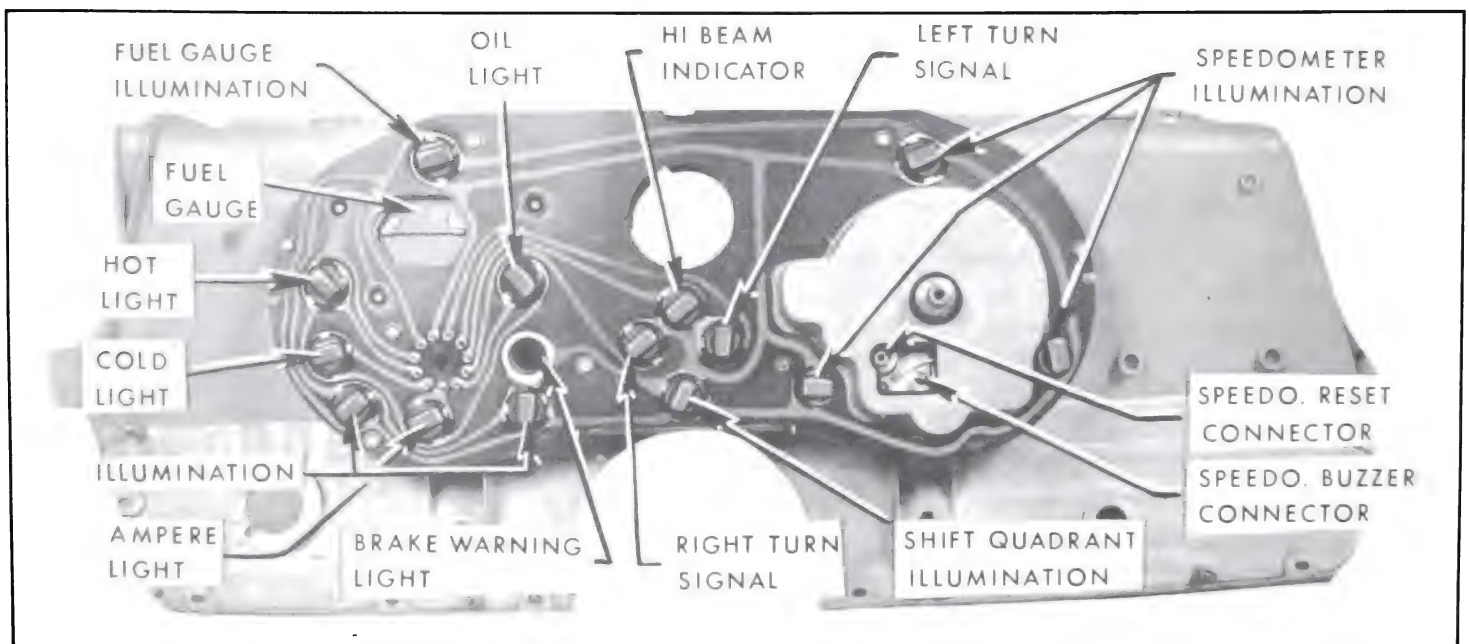
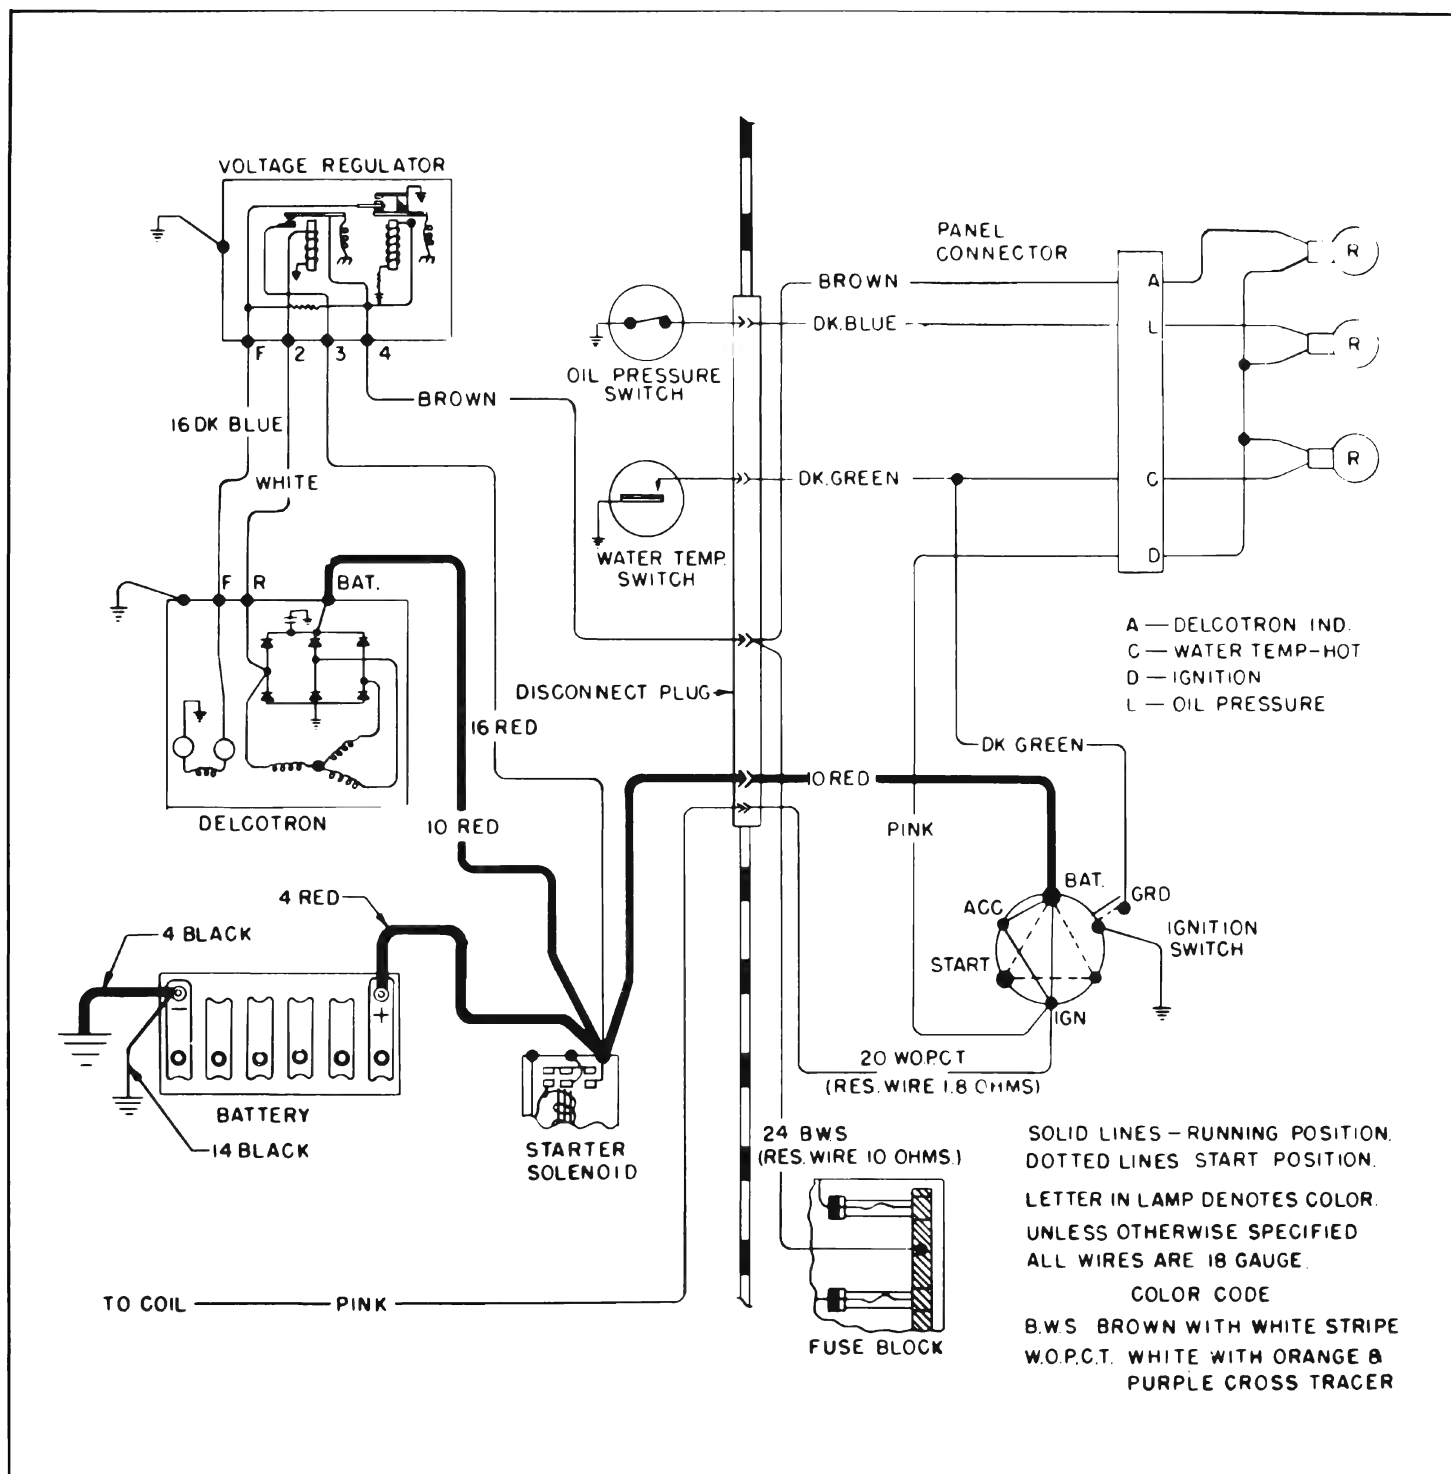

Figure 10-69—Instrument Cluster-Back Side
Figure 10-70—Indicator Warning Light Circuits - Series 4400
A printed circuit is used to complete the circuits for all the lights and instruments in the cluster assembly. See Figure 10-69. A disconnect plug which is part of the instrument panel wiring harness attaches to the printed circuit connector pins. A key way is located in the printed circuit to insure correct assembly of the disconnect plug on the connector pins. If the printed circuit should become defective, it should be replaced as it is not practical to repair it.
To trace the generator indicator light circuit, see Figure 10-70 or 71. With the ignition switch turned on (engine not running), current flow is through the ignition switch, out the "IGN" termi-
After the engine is started, the voltage put-out by the generator immediately closes the field relay. This causes battery voltage from the "3" terminal to be present at the "4" terminal. See Figure 10-70 or 71. Since battery voltage is present on both sides of the generator light, the light goes out. If the generator light comes with the engine running, the charging circuit should be tested at the first opportunity to determine the cause of the trouble. See paragraph 10-21.
If the engine cooling system is not functioning properly and the water temperature should reach approximately 248 degrees F., the "Hot" indicator will be turned on by the temperature switch. As a test circuit to check whether the "Hot" indicator bulb is functioning properly, a wire which is connected to the "GND" terminal of the ignition switch is tapped in to its circuit. See Figure 10-70 or 71. When the ignition is in the "Start" position (engine cranking), the "GND" terminal is grounded inside the switch and the "Hot" indicator bulb will be lit. When the engine is started and the ignition switch is in the "On" position, the test circuit is opened and the bulb is then controlled by the temperature switch.
Use Figure 10-70 or 71 to trace wiring circuits for indicator lights and Figure 10-69 for location of indicator light bulb socket. To determine if there is a ground in the indicator light circuit, remove connector from control switch, if light stays on, trouble is in circuit.
between 30 and 90 MPH by turning a knob at the bottom of the speedometer face. See Figure 10-69. The speed at which the safety-buzzer is set is indicated by a special pointer with a yellow ball in the speedometer face. When the pointer is turned to the end of its travel (90 MPH), the buzzer turns off.
- (b) To check buzzer, stick a prod in terminal at buzzer connector with the blue wire and run jumper to ground. If buzzer now operates, circuit is OK through buzzer and trouble must be in wire to speedometer or in speedometer. To check buzzer circuit up to speedometer, stick prod in buzzer connector at speedometer and run jumper to ground. See Figure 10-69. If buzzer operates, circuit is OK to speedometer so trouble must be in speedometer.